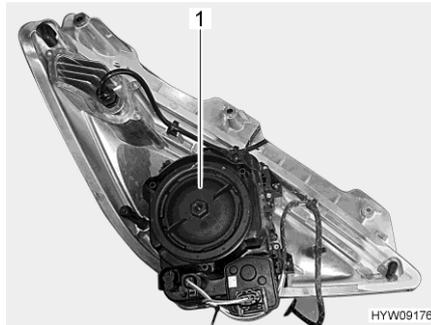

Fig. 161 Front headlight (rear side)
- Turn the housing cover (Fig. 161,1) in an anticlockwise direction and remove.
- Place the housing cover (Fig. 161,1) and tighten in a clockwise direction.